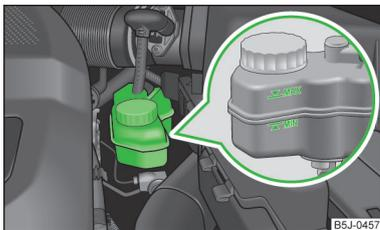

Fig. 130
- Do not continue your journey if the fluid level has fallen below the MIN marking » Fig. 130 on page 145 - there is a risk of an accident. Seek help from a specialist garage.
The brake fluid reservoir is located in the engine compartment » Fig. 130.
- Check the level of brake fluid in the reservoir » Fig. 130.